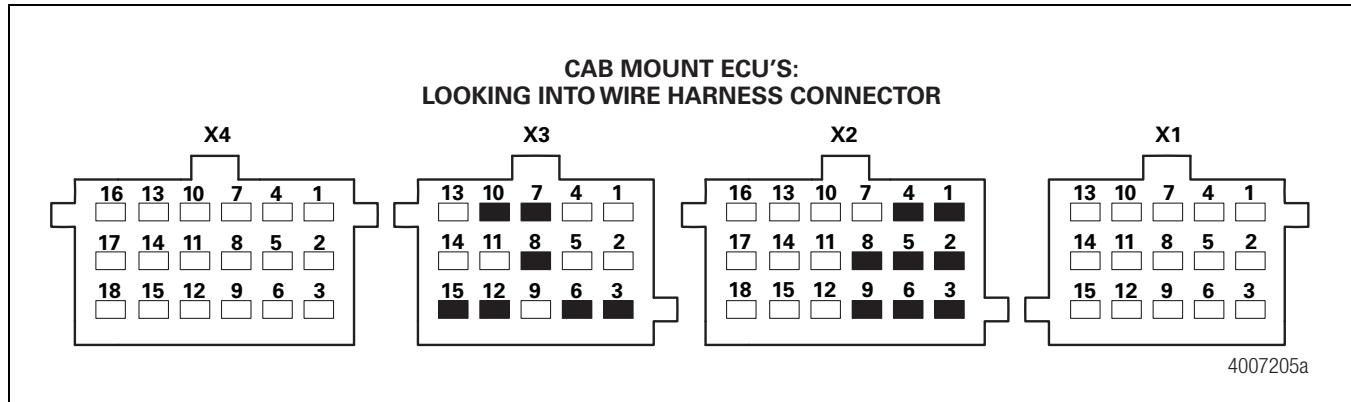
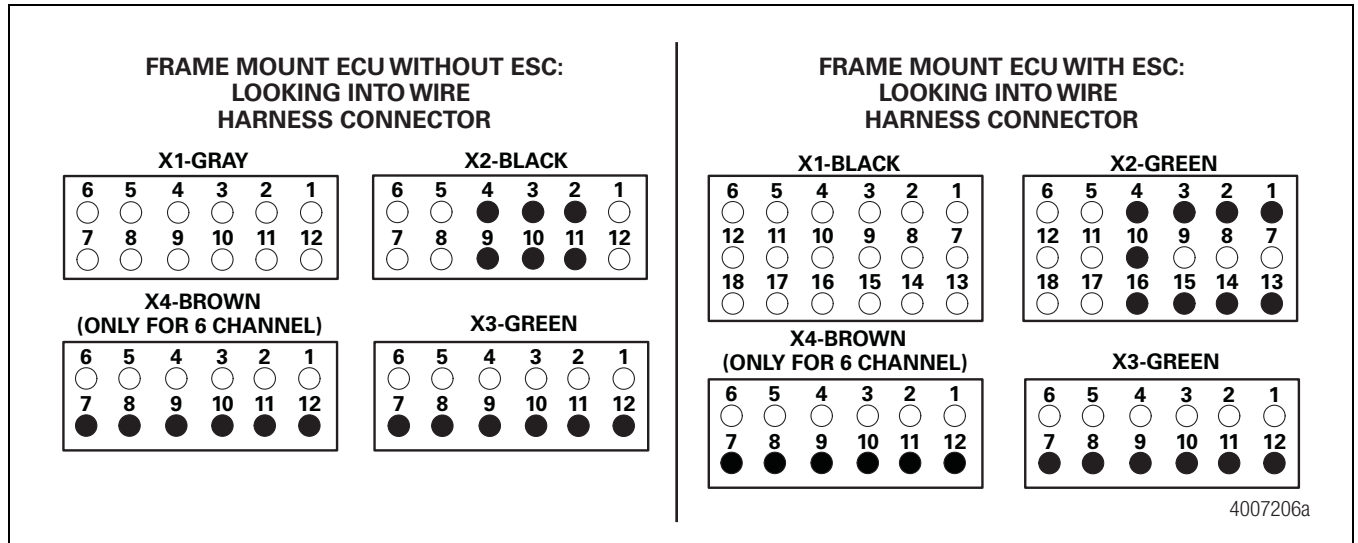

Figure 3.18
Figure 3.19
- Check ECU harness and modulator valve together for resistance. Figure 3.18 and Figure 3.19.